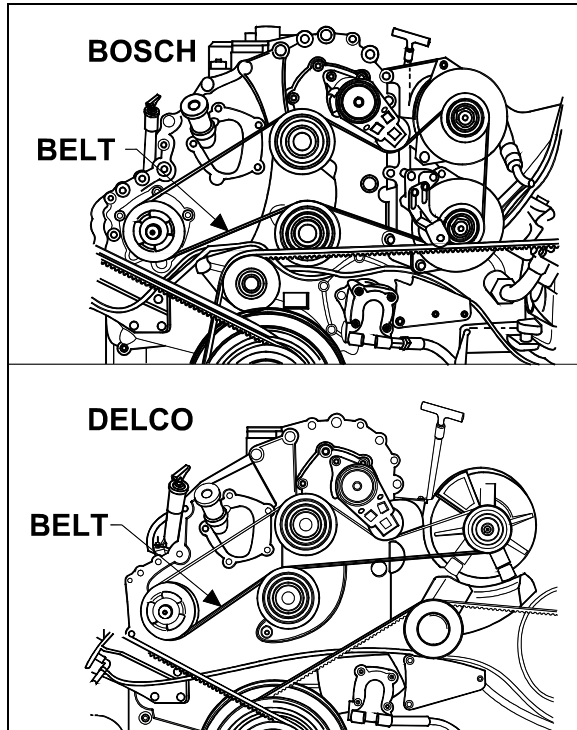

FIGURE 26: ALTERNATOR DRIVE BELT
1. Insert a $\frac{3}{4}$ " socket drive into one of the tensioning arm opening (Fig. 26).